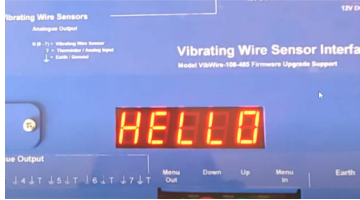

Fig 3
Step 1 - Power on the VibWire-108. The **HELLO** message will be displayed on the instrument as shown in Figure 3.